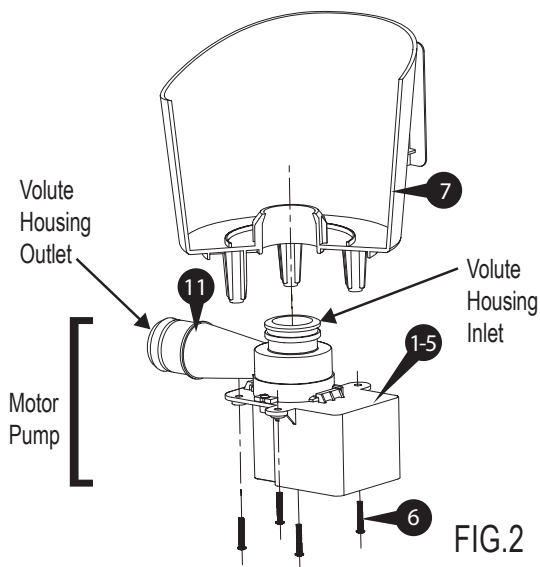

FIG.2
6. Now take out the Pump Motor Assembly (1-5) (see Fig. 2) and lubricate the Volute Housing Inlet o-ring with petroleum jelly (not included). Then hold the Skimmer Canister (7) securely, insert the Inlet into the bottom of the Canister, and tighten with the Pump Mounting Screws (6). Make sure that the Volute Housing Outlet sticks out from the side as indicated in Fig. 2.
7. Locate the Pool Wall Fitting assembly parts (14-20). Lubricate the black Fitting Gasket (15) with petroleum jelly and install it over the threads on the Pool Wall Fitting (14). Insert the pool wall fitting with the gasket through the Pool Inlet from the inside of the pool.
8. Place the Return Fitting Washer (16) over the pool wall fitting and then thread the Return Fitting Lock Nut (17) onto the fitting until it is hand tight. **DO NOT overtighten the Return Fitting Lock Nut or wrinkle the pool wall around the Return Fitting Washer (16) or Fitting Gasket (15).**
9. Now apply some petroleum jelly to the threads of the 90° Elbow (18) and install the elbow into the wall fitting assembly. Install the Return Fitting Diverter (19) and Locking Ring (20) onto the wall fitting.
10. Get the Return Hose (12) and remove the two Hose Clamps (13) from the hardware bag. Loosen the hose clamps and slide them over the ends of the hose. Lubricate the O-Rings (11) on the Volute Housing Outlet (see Fig. 2) and on the 90° Elbow (18) and then install the Hose onto the volute housing outlet and the elbow (see Fig. 3). Tighten both of the Hose Clamps (13).
11. Place the Filter Cartridge **8** and the Skimmer Strainer Basket **9** back into the Filter Pump Skimmer Canister **7**. It is important that the filter cartridge slips over the Volute Housing Inlet (see **Fig. 2**) and seals at the bottom of the canister so that the Skimmer Strainer Basket **9** will seat properly in its groove inside the canister. See **Fig. 4**.
10. Now lubricate the pump O-ring with petroleum jelly (not included). This O-ring is located on the volute housing Inlet as shown in Fig 2. Hold the pump skimmer canister securely, and insert the motor pump in such a way that the Volute Housing Outlet sticks out from the side as shown in Fig. 2. Fasten the pump mounting screws by a screwdriver to attach the pump onto the skimmer canister as shown in Fig. 2.